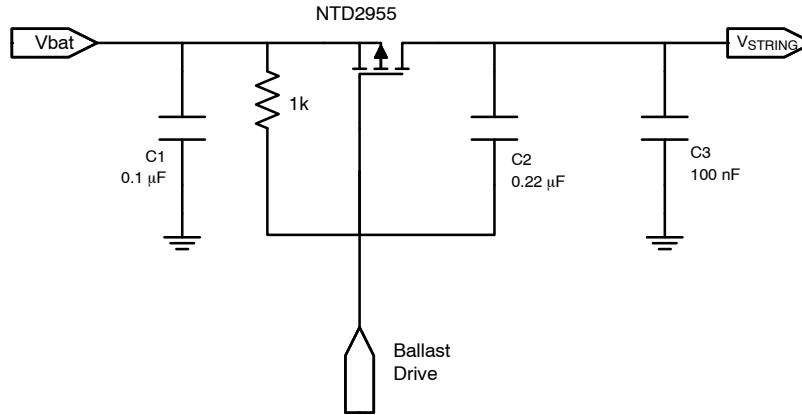

Figure 4. External PFET with external support components including C2
1. The Error amplifier (Ballast Drive) output impedance (comprised of the external 1k resistor in parallel with the Ballast Drive output impedance shown in Figure 4) and the capacitance on that node (primarily influenced by the Miller effect of C2 and NTD2955).	This pole is the majority contributor to the system frequency compensation design in this application and can be used as the control knob for stability. This application utilizes a capacitor across the gate–drain of the FET to make use of capacitance multiplication.